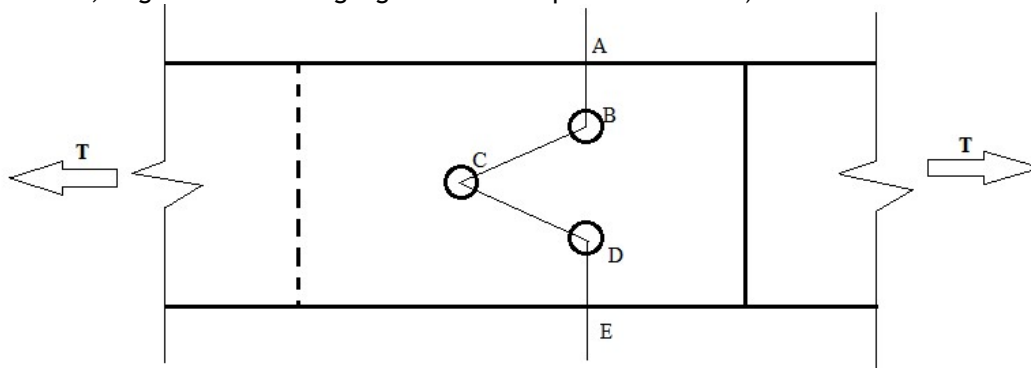

Fig: 1
- Q6 Two plates (Made of Fe410) width 200 mm width and 16mm thickness each are attached together with 3 bolts (Each of Grade 4.6, having nominal diameter 16mm) as shown in the figure (Fig: 1). Calculate the design rupture strength of the plate in tension only for the failure line A-B-C-D-E as shown in the figure. (Consider appropriate pitch, end distance, edge distance and gauge distance as per IS 800: 2007) [5]